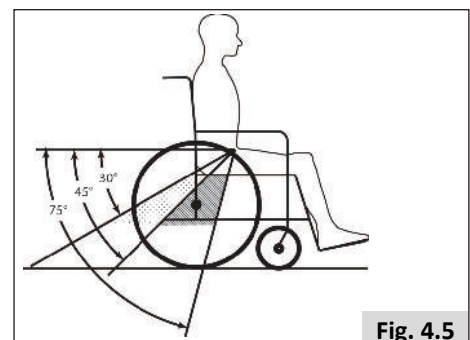

Fig. 4.5
18. A steeper (greater) angle within the preferred zone is desirable, closer to, but not exceeding 75 degrees (Fig.4.5).